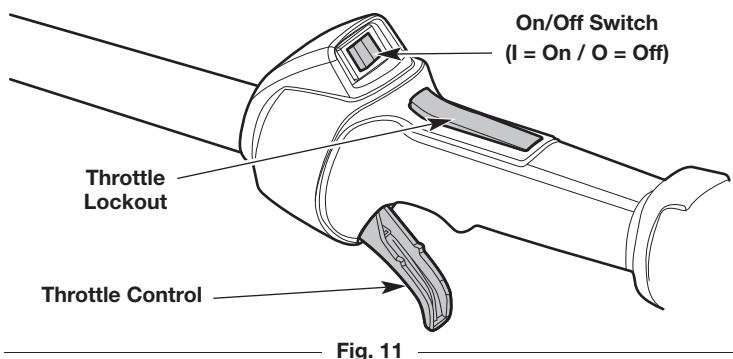

Fig. 11
**NOTE:** There is no need to turn the unit on. The On/Off switch is in the **On (I)** position at all times (Fig. 11).
**NOTE: DO NOT squeeze the throttle control (Fig. 11) until step 6.**
6. Press and hold the throttle lockout (Fig. 11). Squeeze the throttle control as needed for operation (Fig. 11).
2. Press and hold the On/Off switch in the **Off (O)** position until the engine comes to a complete stop (Fig. 11).
**NOTE: DO NOT squeeze the throttle control (Fig. 11) until step 8.**
8. Press and hold the throttle lockout (Fig. 11). Squeeze the throttle control as needed for operation (Fig. 11).